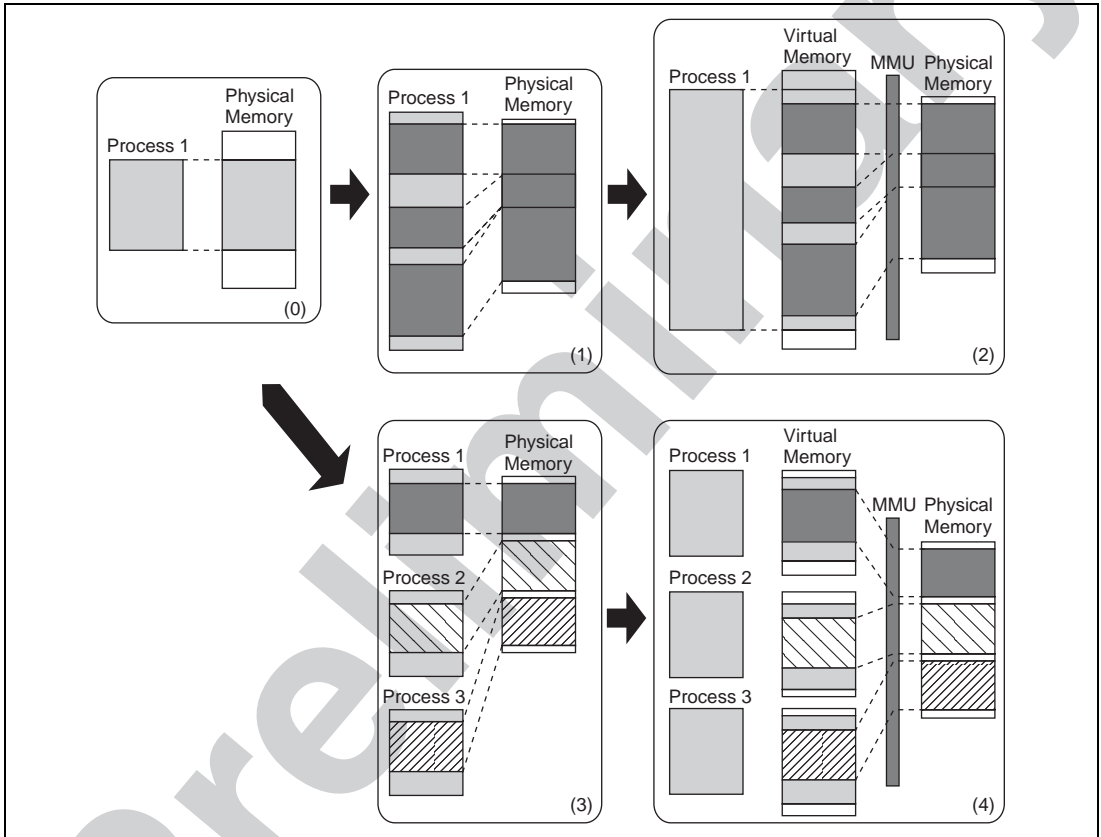

Figure 3.1 Role of MMU
The MMU was conceived as a means of making efficient use of physical memory. As shown in (0) in figure 3.1, when a process is smaller in size than the physical memory, the entire process can be mapped onto physical memory, but if the process increases in size to the point where it does not fit into physical memory, it becomes necessary to divide the process into smaller parts, and map the parts requiring execution onto physical memory as occasion arises ((1) in figure 3.1). Having this mapping onto physical memory executed consciously by the process itself imposes a heavy burden on the process. The virtual memory system was devised as a means of handling all physical memory mapping to reduce this burden ((2) in figure 3.1). With a virtual memory system, the size of the available virtual memory is much larger than the actual physical memory, and processes are mapped onto this virtual memory. Thus processes only have to consider their operation in virtual memory, and mapping from virtual memory to physical memory is handled by the MMU. The MMU is normally managed by the OS, and physical memory switching is carried out so as to enable the virtual memory required by a process to be mapped smoothly onto physical memory. Physical memory switching is performed via secondary storage, etc.
The virtual memory system that came into being in this way works to best effect in a time sharing system (TSS) that allows a number of processes to run simultaneously ((3) in figure 3.1). Running a number of processes in a TSS did not increase efficiency since each process had to take account of physical memory mapping. Efficiency is improved and the load on each process reduced by the use of a virtual memory system ((4) in figure 3.1). In this virtual memory system, virtual memory is allocated to each process. The task of the MMU is to map a number of virtual memory areas onto physical memory in an efficient manner. It is also provided with memory protection functions to prevent a process from inadvertently accessing another process's physical memory.